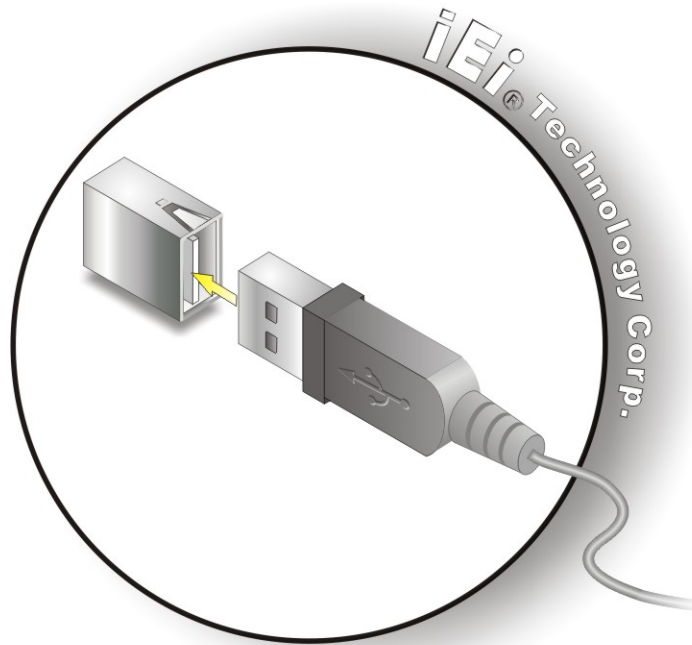

Figure 5-20: USB Connector
Step 2: Insert a USB Series "A" plug. Insert the USB Series "A" plug of a device into the USB Series "A" receptacle on the external peripheral interface. See **Figure 5-20**.